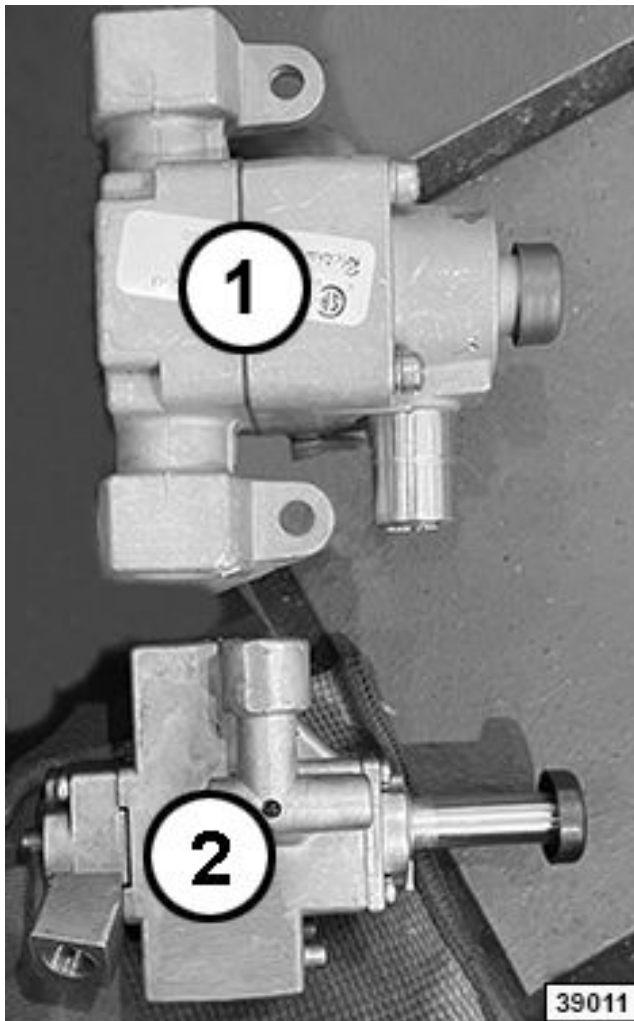

Fig. 9
**NOTE:** When the valve is replaced, take note that a temporary production valve was used. Item 1 part number in Fig. 9 is listed in the parts catalog. Item 2 part number with the two inch brass extension is not in the parts catalog. Call technical support so this part can be special ordered.